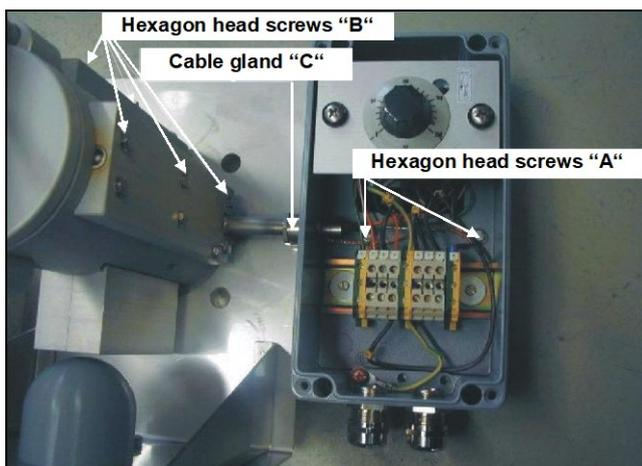

Figure 16 Positioning of the fixing screws and cable gland
- Unscrew both screws "A" on the bottom of the connection box (figure 16) which are serving to mount the connection box on to the holding clip.
- Unscrew the hexagon head cap screws "B" (figure 16) which are serving to fix the heating cartridge receiving plate and the thermostat sensor receiving plate.